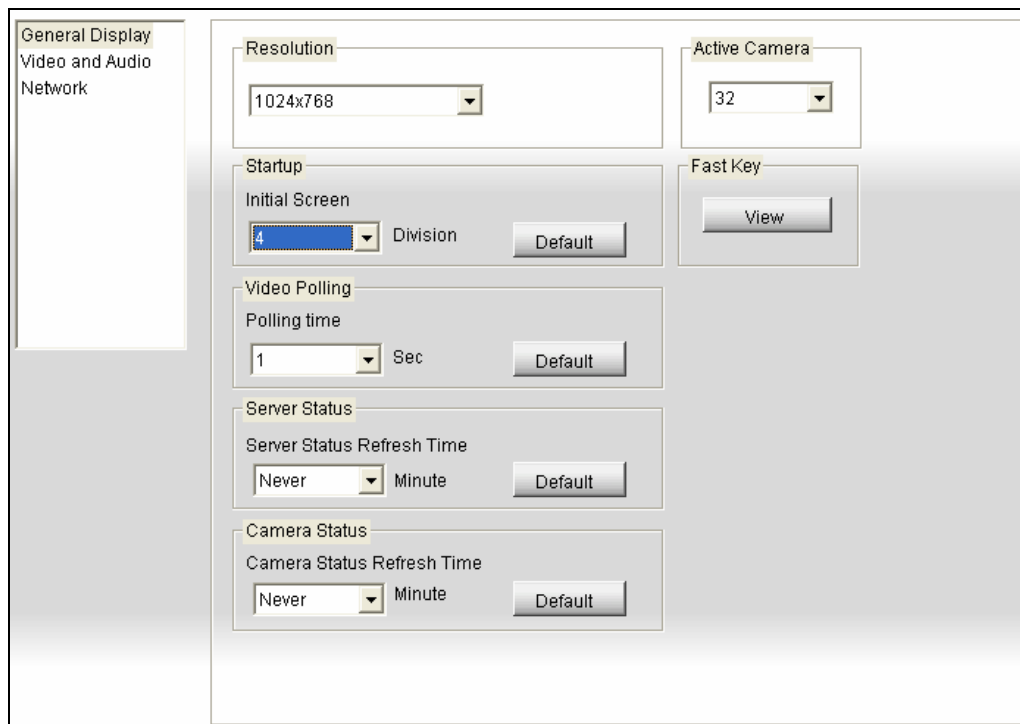

Figure 8-43 The Configure Window
2. Click the **Video Polling** button (No. 18, Figure 8-35). The application will rotate the selected cameras in the specified time. To configure the polling time, see Figure 8-43.